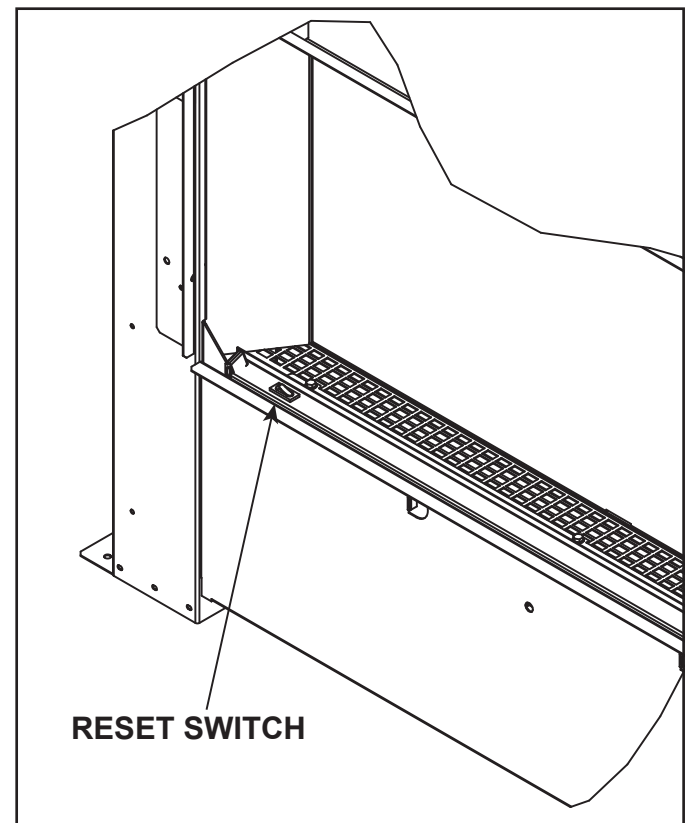

Figure 8.2 Reset Switch Location - Bottom Left
- Press the RESET switch located on the left side of the transition media tray. Use a small, flat object to access the switch. Once the RESET switch has been pressed, attempt to start the appliance. See Figure 8.2.